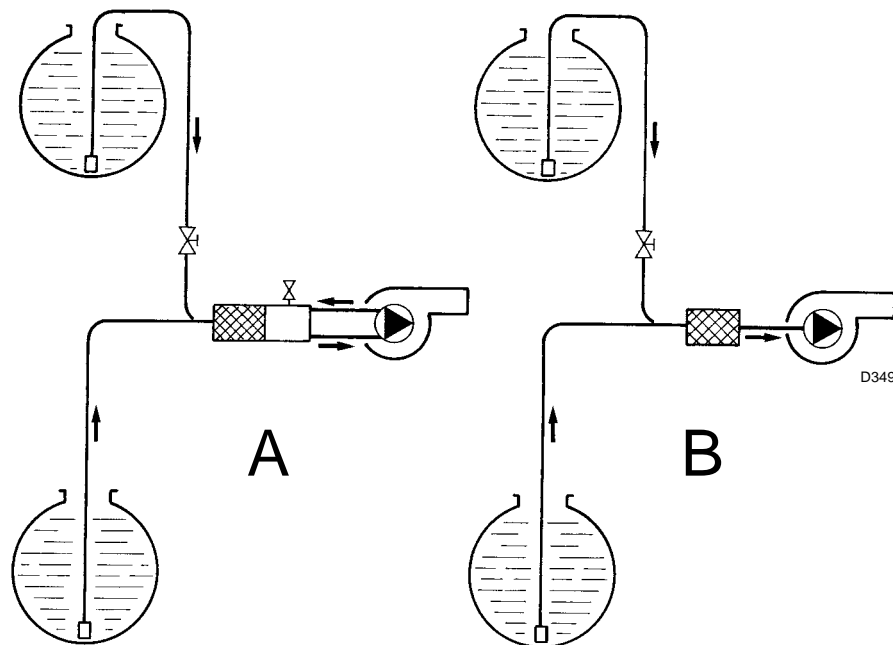

Fig. 19
- Pump external bypass (A, Fig. 19) (recommended)
- Pump internal bypass (B, Fig. 19)
When single-pipe fuel supply systems without degaussing units (Fig. 19 on page 21) are used, this screw, accessible from the connector 2), must be removed. In this way, the excess in the delivery discharged by the pressure regulator into the return line passes into the suction line.